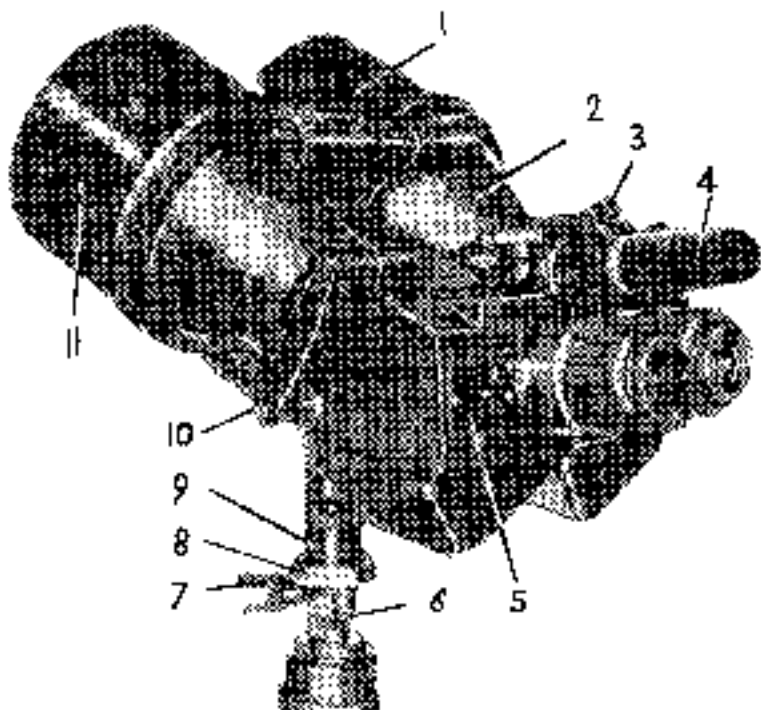
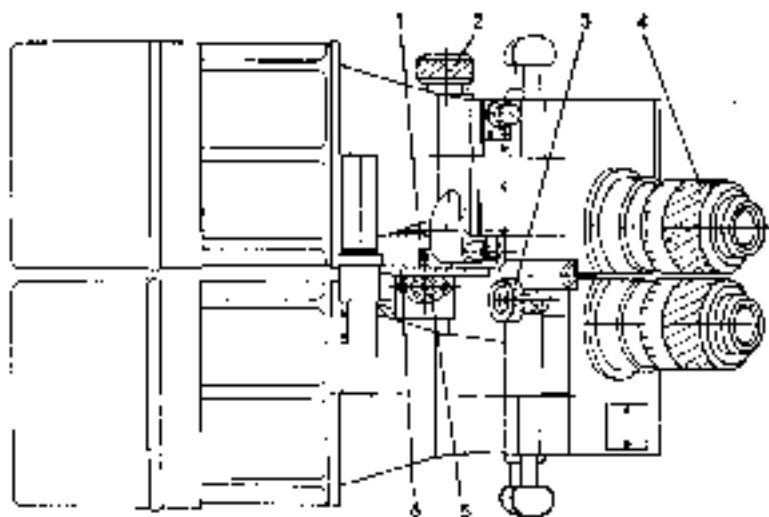
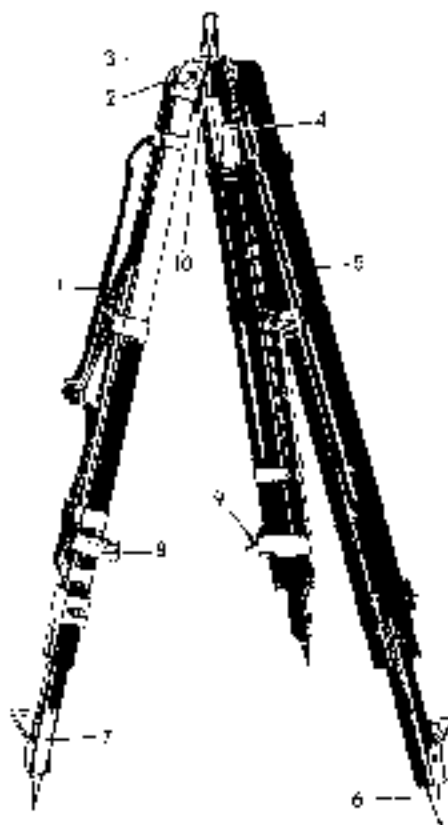
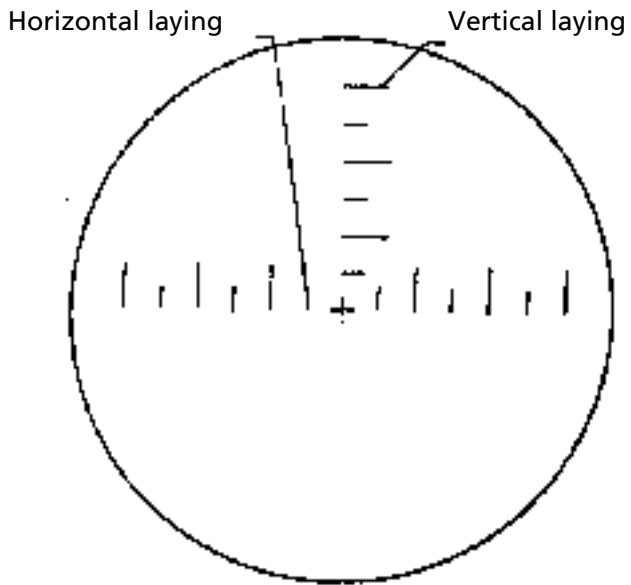

Fig. 1 Article ПНБ-2. General view:
Fig. 2 **Article ПНБ-2:**
Fig. 3 Tripod:
Fig. 4 **Field of vision**
Headrest 4 (Fig. 1) is inserted into the bracket'secured on casing 2 and is fastened by handle 3 (Fig.4). It makes convenient the operation with the instrument.
Blinds 11 (Fig. 1) are put on casing 2 on the side of the objectives, protect the latter against lighting with the sun rays and serve to lessen ingress of dissipated light into the instrument.
The direction of the sighting line in the vertical plane is determined by scale 6 (Fig. 2) with division value 5° and by index 1 with ball level 5 in the zero position. The ball level is fastened on post 9 (Fig. 1) and serves for levelling the instrument.
The changeable tripod is used as a support for the instrument when operating in standing position. The main parts of the tripod are head 3 (Fig. 3), pin 10 and three extensible legs 5
Handles 10 (Fig. 1) attached to casings 2 serve as the instrument controls.
- unbuckle strap 8 (Fig. 3) bracing the tripod legs 5;
- level the instrument by means of ball level 5 (Fig.2) with the aid of the tripod legs;
- unscrew nuts 9 (Fig.3);
- level the bubble of ball level 5 (Fig.2) by pulling legs 7 (Fig. 3) in or out;
- set the eyepieces for sharp image. With this aim in view release the levelling brake. Then turning the instrument by handles 10 (Fig 1) with knob 3 pressed lay the instrument on some sharply outlined object located in the observation zone. Release knob 3. Obtain sharp image of the object observed in the eyepieces of both the tubes of the instrument alternately for each eye. (Here you may open the eyes or darken the input windows of the instrument);
- set the eyepieces by the observer's eye base. In this case obtain proper visibility of the reticle viewfield (see Fig. 4) by turning knob 2 (Fig. 2) at binocular observation in the instrument. The viewfield of the instrument should be in the form of the solid circle;
- check for proper installation of the headrest. The pupils of the observer's eyes should be aligned with the exit pupils of the instrument. In this case the viewfield of the instrument should be observed without darkening or edge cutting. The headrest may be moved with handle 3 (Fig. 2) screwed out;
- b) bring in line the central cross of the reticle with a chosen landmark or orient the instrument in the direction north-south by means of a compass turning the instrument by the handles with knob 3 pressed (Fig. 1);
- lay the instrument on an object operating by handles 10 (Fig. 1) with knob 3 pressed, then release the knob, secure the brake of horizontal laying by turning the knob clockwise and carry out observation.
If you observe objects located at various distances from the observer the image sharpness is obtained by turning eyepieces 4 (Fig.2).
Attention! It is prohibited to lay the instrument on object along the vertical with knob 3 (Fig. 1) released.
The range measuring scale (Fig. 4) serves for measuring distance up to targets of 1.7 m high (man's growth). It is made in the form of two lines: horizontal and inclined ones. The marks with division value of 2 hectometers and, figures in each 2 marks are engraved over the inclined line. The scale limits are from 4 to 30 hectometers.
- bring the eyepieces to maximum interpupillary distance by means of knob 2 (Fig. 2);
- incline the instrument down so that it touches post 9 (Fig. 1) by handles 10 with knob 3 pressed;
- put on cap 4 (Fig. 3) on the tripod pin, assemble the tripod with pedals 2 and nuts 9 released, fasten them, tighten sliding legs 5 with strap 8, carry the tripod using shoulder strap 1.